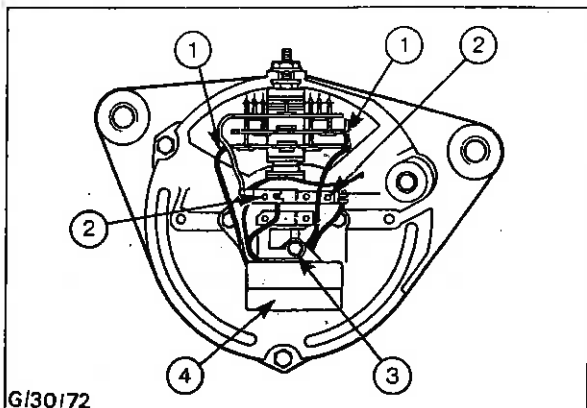

Fig. 10 - Removing Regulator
4. Make a note of the regulator leads terminations, then disconnect leads (1) from the rectifier. Remove screw (2) securing remaining two regulator leads. Remove screw (3) and detach regulator (4) - see Fig. 10.